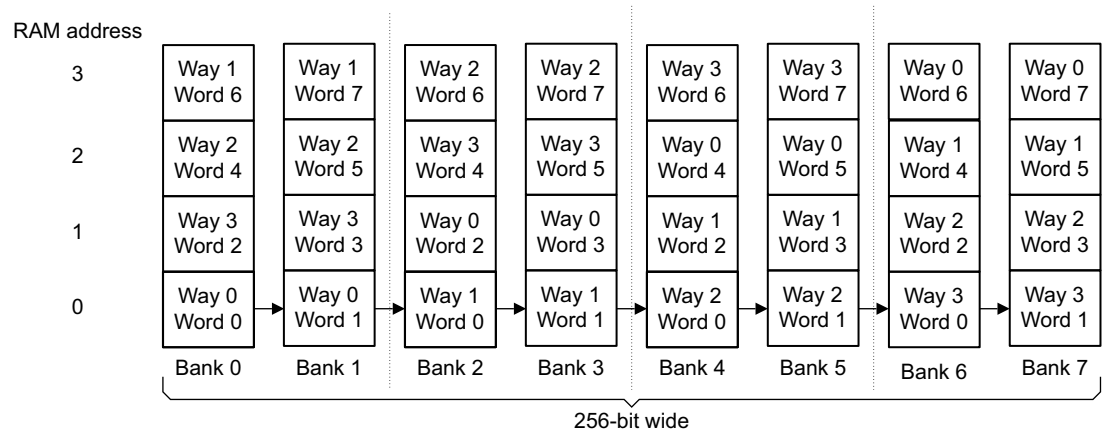

Figure 6-1 Nonsequential read operation performed with one RAM access.
- Perform a cache look-up with one RAM access, all banks selected together. This is done for nonsequential read operations, as shown in Figure 6-1.
Figure 6-1 shows a cache look-up being performed on all banks with one RAM access.